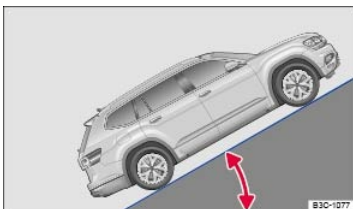

Fig. 131 Gradient angle.
- **Gradient angle:** The number of feet (meters) in altitude gained when traveling about 328 ft (100 m) is given as a percentage or in degrees ⇒ Fig. 131. The gradient angle indicates the maximum slope the vehicle can climb unassisted (depends on road surface and engine power).